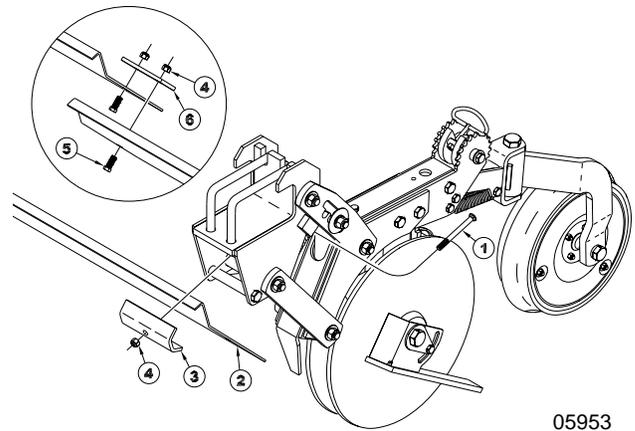

Figure 5
1. Insert a 3/8" x 4 1/4" carriage bolt (#1) as shown in Figure 5, through the back of the opener mount. Place a mounting clip (#3), and a lock nut (#4) on the carriage bolt, but do not tighten the lock nut all the way.